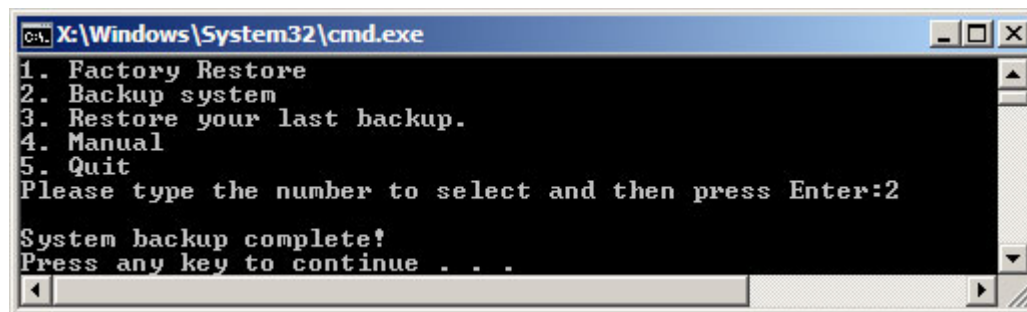

Figure B-38: System Backup Complete Window
Step 3: The screen is shown in **Figure B-38** appears when system backup is complete. Press any key to reboot the system.